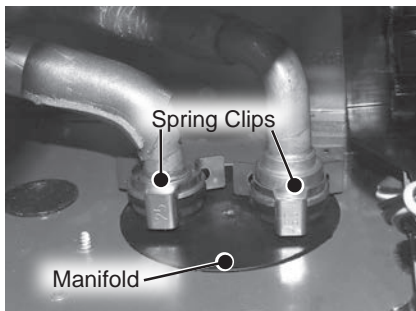

Figure 181 - Remove two spring clips from the cartridge manifold.
- 12** Locate and remove the two spring clips (size 25) securing the manifold inlet tube and outlet tube to cartridge manifold. Place the spring clips aside in a safe place for reinstallation. See Figure 181.